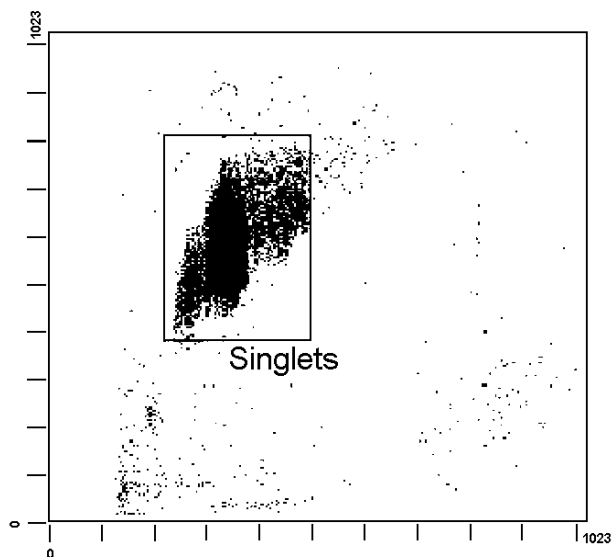

Figure 2. Forward scatter versus side scatter of Set-Up Beads. The gate has been set to collect bead singlets.
4. Acquire the data from the Set-Up Beads. Fluorescence analysis is confined to bead singlets clear of debris, as defined on a forward scatter versus side scatter dot plot (see Figure 2).